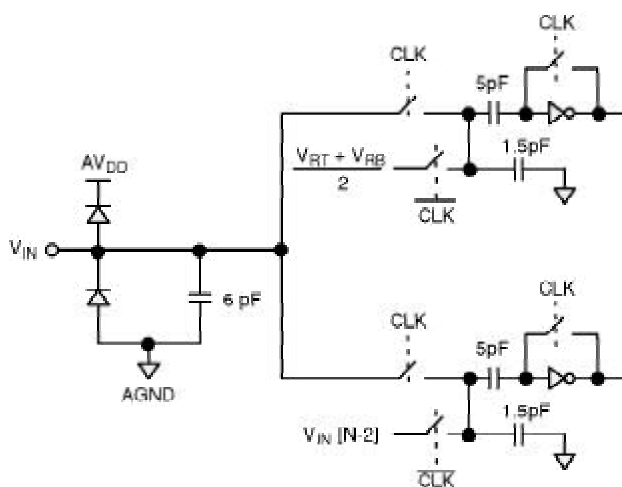

Figure 5. Equivalent Input Circuit
5. See V_{IN} input equivalent circuit (Figure 5). Switched capacitor analog input requires driver with low output resistance.
The reference can be biased internally by shorting V_{RT} to V_{RTS} and V_{RB} to V_{RBS} . This will generate $0.4V$ at V_{RB} and $1.72V$ at V_{RT} (see Figure 5).